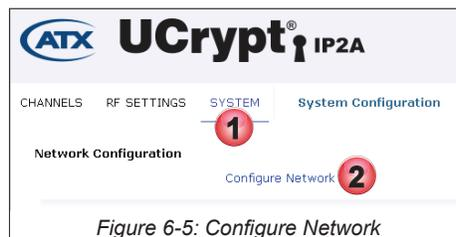

Figure 6-5: Configure Network
1. Click the **System** tab if it isn't already selected, Figure 6-5.